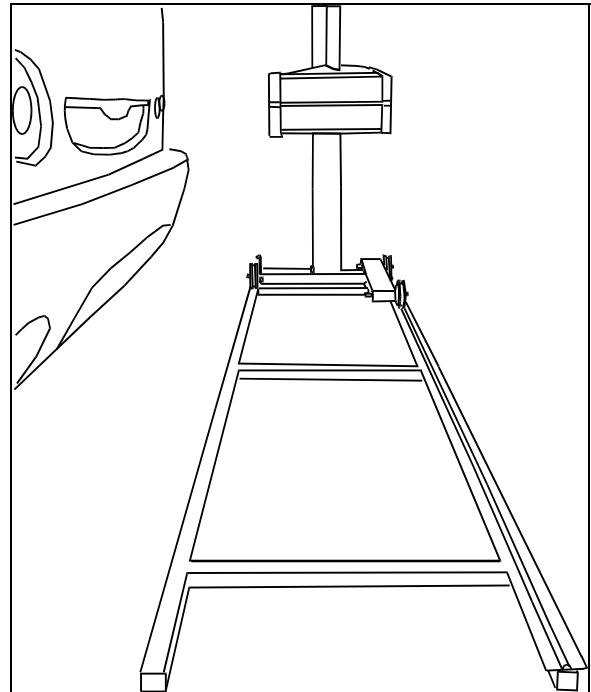

FIGURE 53: INSTALLATION OF HOOPY 100 ALIGNER 06496
5. Install "Hoopy 100" Aligner onto support rail (Fig. 53).
- Install “Hoopy 100” Aligner onto support rail (Fig. 53). Turn aligner ON.